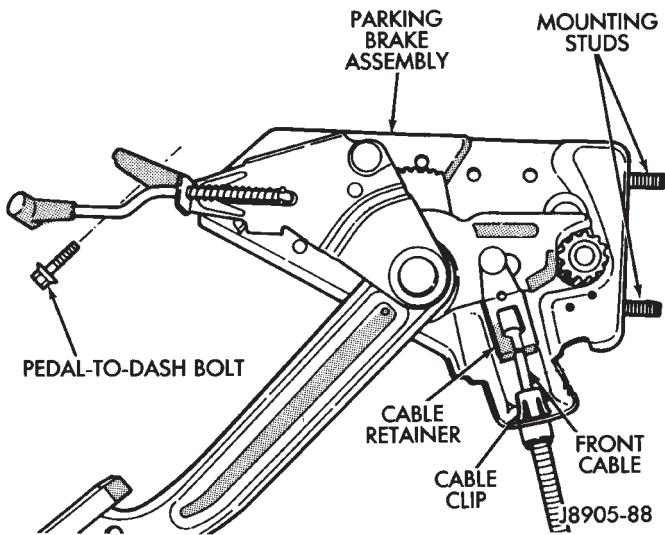

Fig. 2 Parking Brake Assembly
- (1) Remove nuts that attach the parking brake pedal assembly mounting studs to the dash panel. The nuts are accessible from the engine compartment (Fig. 2).